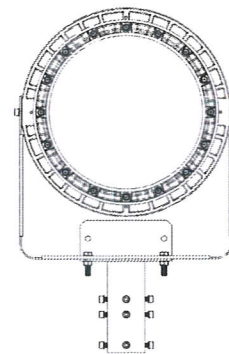

Figure 3
- ☞ This mounting bracket type is for mounting unto the bending electrical tube (Figure 3).